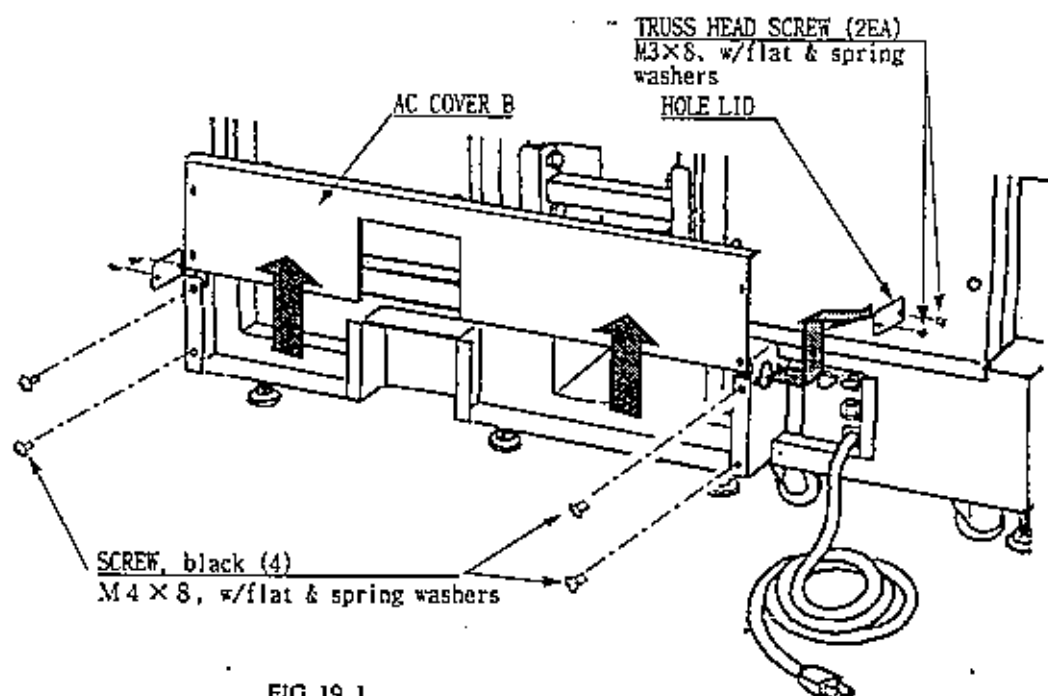

FIG. 19.1
- ① Take off the 4 screws and remove AC COVER B (Fig. 19.1).
- ② The HOLE LID is attached to the AC COVER HOLE into which the PROTECT TUBE is to be installed. By taking off 2 screws, remove the HOLE LID of the side where the PROTECT TUBE is to be installed.